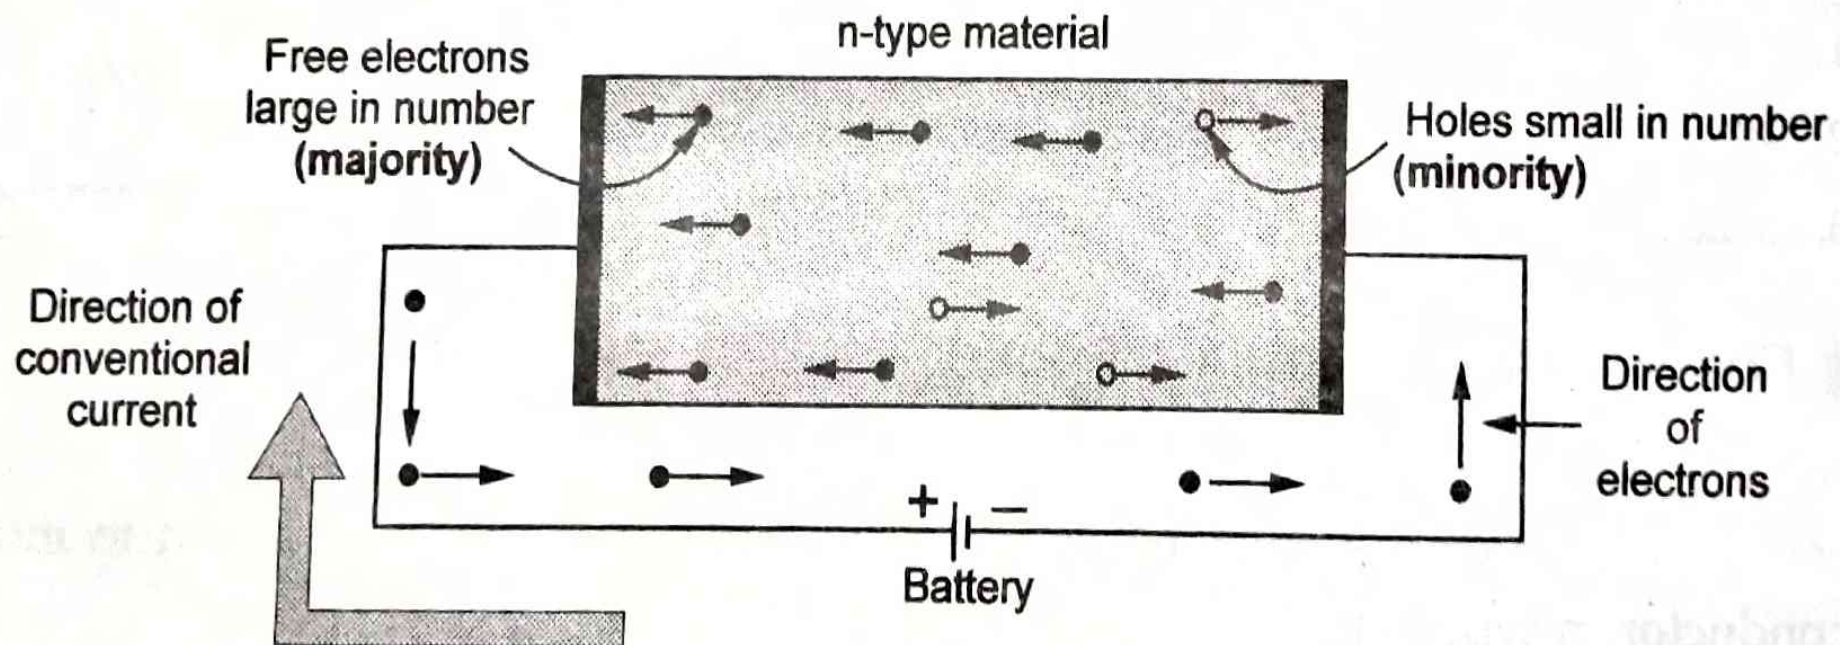

Fig. 1.5.2 Conduction in n-type material
- This is shown in the Fig. 1.5.2.